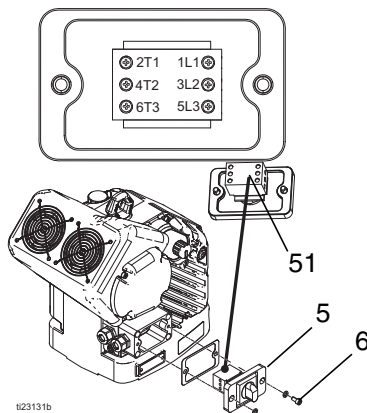

FIG. 15: Junction Box Cover
10. Install junction box cover (G) and tighten two screws (6). See FIG. 15, page 15.
11. Install wires into disconnect switch (51) and tighten wire screws.